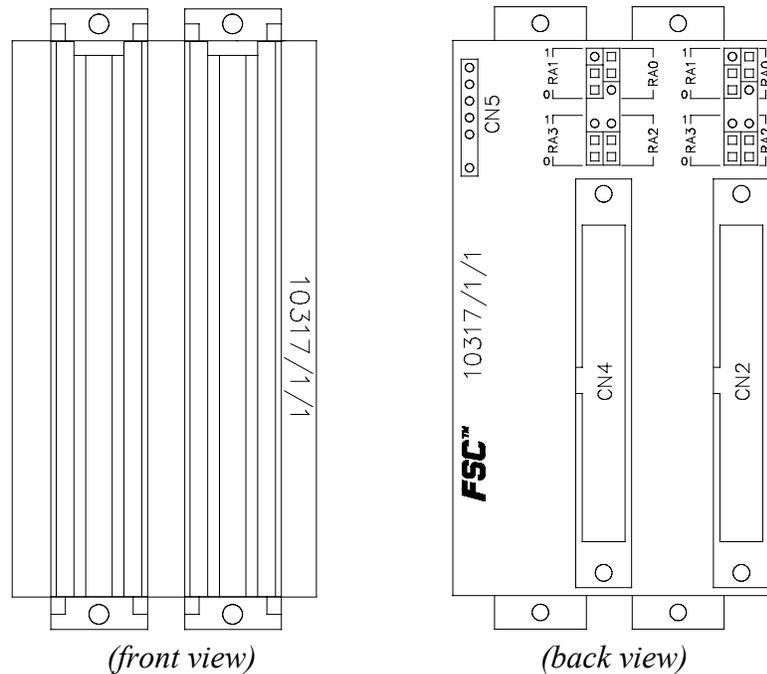
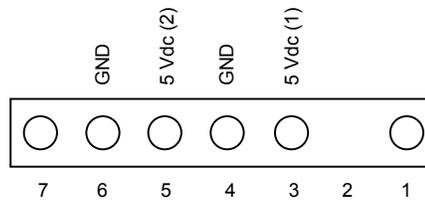

Figure 1 Front and back views
Figure 2 Connector CN5 (detail)
The V-Bus connector of Central Part 1 (CP1) is plugged into connector CN2 and the V-Bus connector of Central Part 2 (CP2) into connector CN4 (see Figure 1).
5 Vdc (1), 5 Vdc (2) and ground (GND) are connected to the I/O backplane via connector CN5 (see Figure 1 and Figure 2).